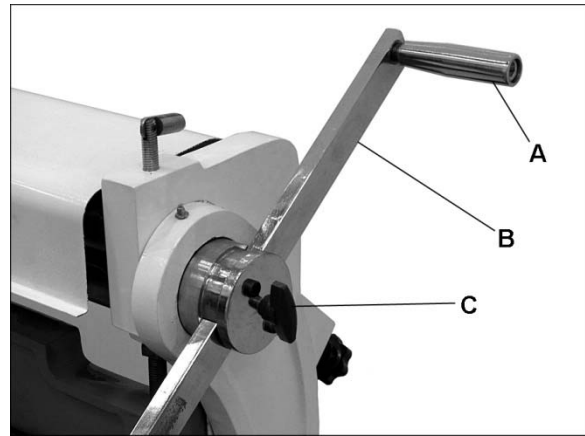
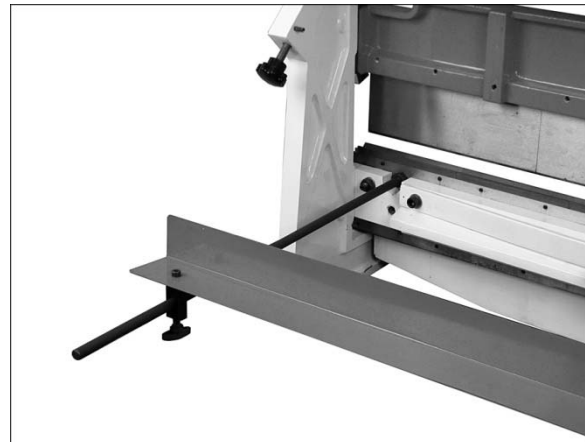

Figure 3
Figure 4
7. Remove one handle (A, Figure 3) from each operating handle assembly, using 8mm hex key.
8. Loosen lock bolt (C, Figure 3).
9. Slide bar (B) into hub and tighten lock bolt (C) to secure.
10. Re-install handle (A).
11. Install both *guide rods* into either the upper or lower set of threaded holes (Figures 4/5) and tighten the setting by rotating *hex nut* against the cast base of the machine with 19mm wrench.
NOTE: For brake operation, install guide rods into upper set of holes (Figure 4); for shear operation, install in lower set of holes (Figure 5).
12. Install *guide plate* as shown in Figures 4 or 5. Secure it to rods using the T-handles.
4. Select upper dies (E) for desired job and remove the others by sliding them out the left end.
6. Securely re-tighten all screws (Figure 4), then release and remove wood strip.
7. If making repeated bends or using a long workpiece, position guide rods and plate for brake operation, as shown in Figure 4.